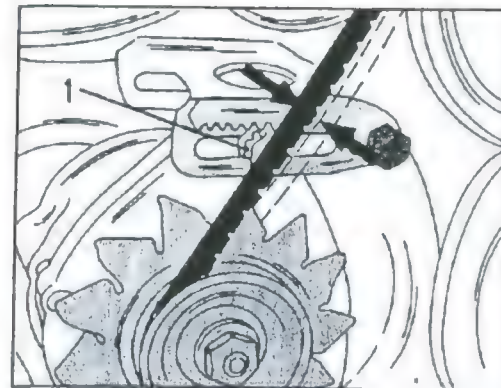

Fig. 9.34 – Tighten the tensioning bolt to tension the drive belt. The deflection of the belt is checked between the arrows.
The tension is checked at the centre of the belt between the pulleys for the water pump and the alternator, at the point shown in Fig. 9.34.
To adjust the tension, tighten the tensioning bolt (1) in Fig. 9.34. The bolt engages into the toothed adjusting link and moves the alternator towards the outside. The belt is correctly tensioned when it can be